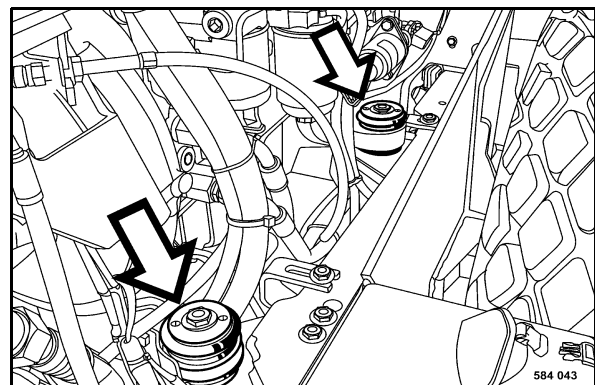

Fig. 170
- Check the condition and tight fit of the engine pillow blocks (Fig. 170).